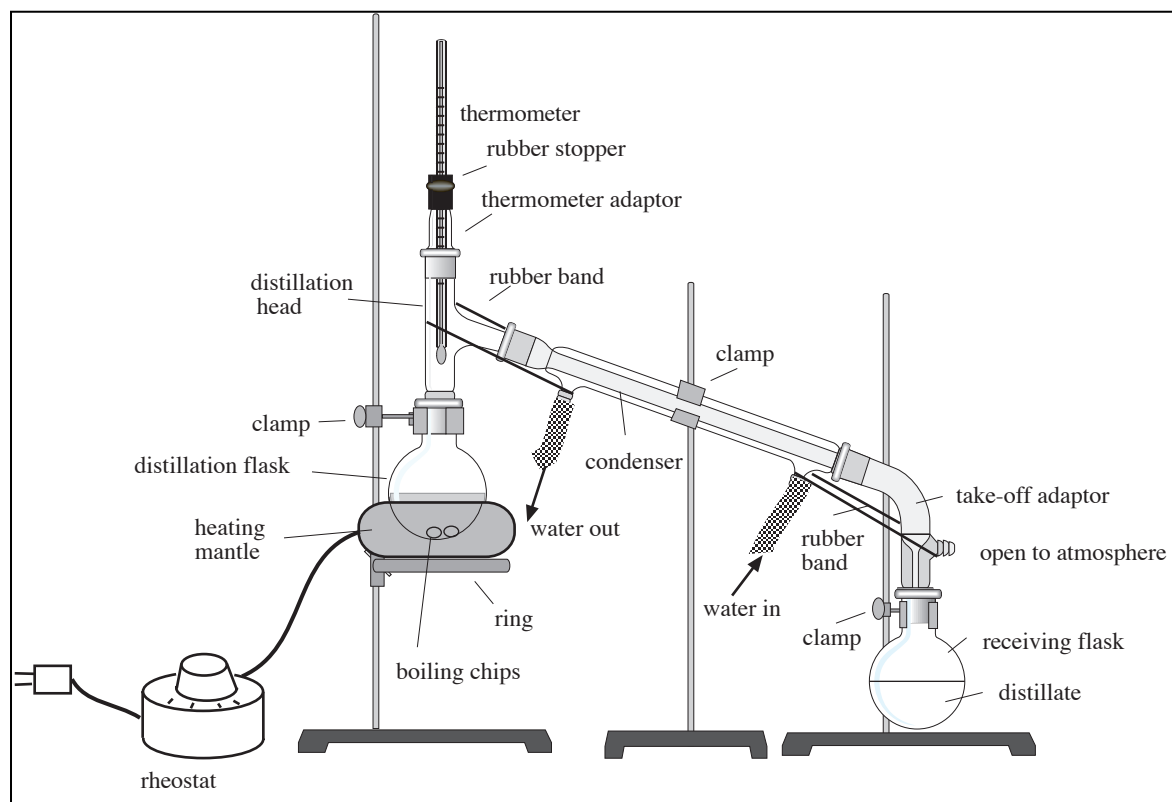

Figure 2. A simple distillation apparatus used for steam distillation. *Sketch this labeled diagram into the procedure portion of your notebook.*
- *Procedure*: Hand-written, step-wise, and in your own words; include **Figures 2 & 3**.
Tare a large beaker and transfer the finely chopped or grated citrus peels into the beaker to record the mass of peels. The mass should be no less than 100 g and no more than 150 g. Consult the TA if the mass is too low. Using a wide-mouth funnel for solids and spatula, transfer the peels into a 500-mL round bottom flask (RBF). **Add 150 mL of distilled water** to the flask and assemble a simple distillation apparatus (**Figure 2**). If you forget to add the distilled water before heating, it will smell terrible, you will not be allowed to start over, and your report will be penalized. Copy **Figure 2** into your notebook (omit the boiling chips) and use the following instructions to set this up in the correct order. *Pay attention to the in-lab demo. This must be set up in a particular order, starting on the side with the larger flask, or you may need to start over!*